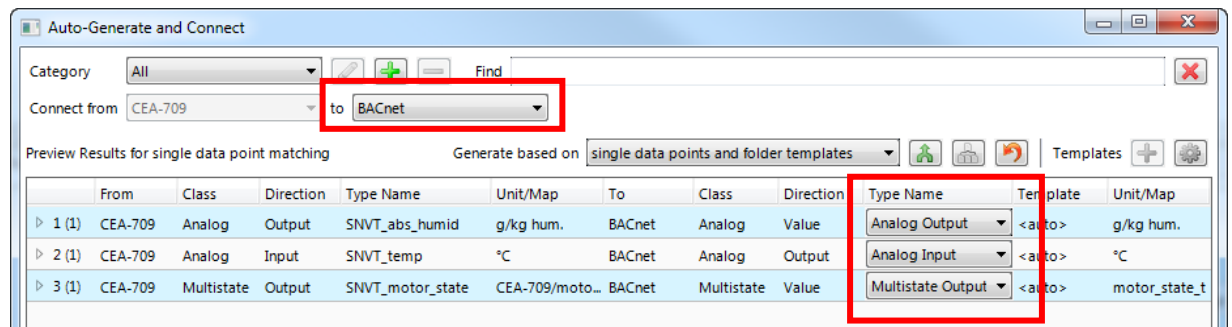

Figure 48: Auto-generate and connect preview.
- The auto-generate preview dialog opens as shown in Figure 48. Choose the target technology. The preview results show a list for each source type found how it will be created as a target type. The **Type Name** column provides a drop-down to modify the result. This choice is remembered and will be applied the next time again. You may click the **Restore defaults** button  to revert all custom settings.